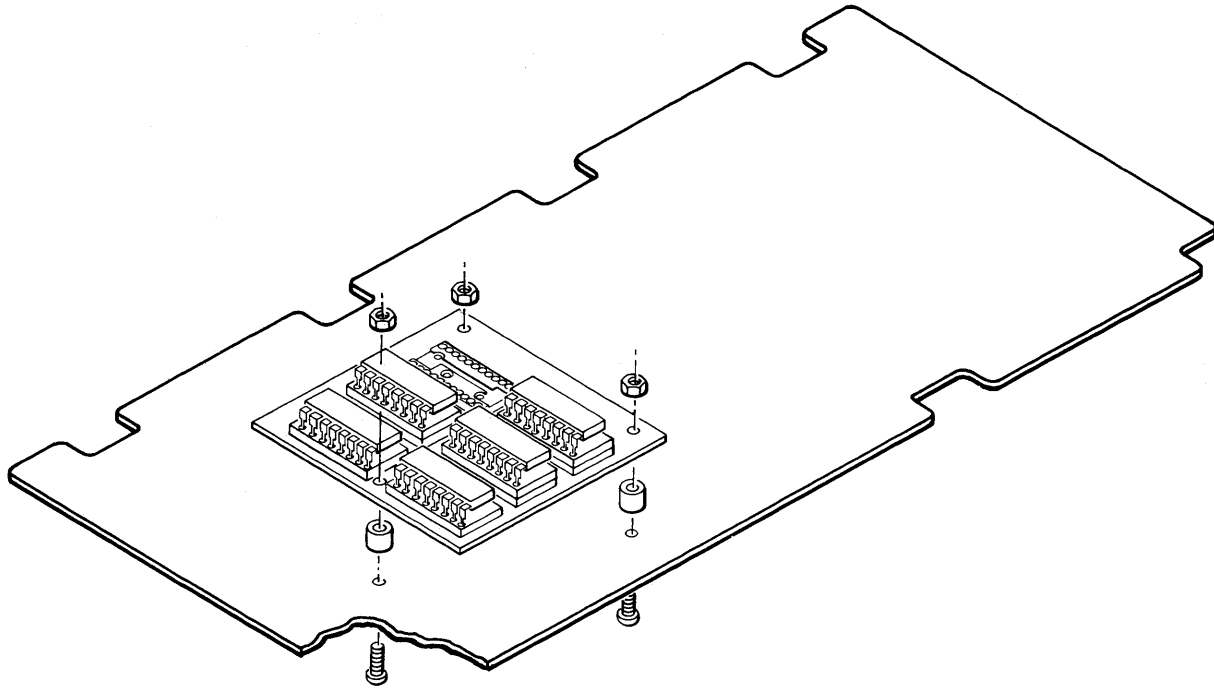

Figure 2-6. iSBC 341 Multimodule EPROM Orientation
9. Hold the iSBC 88/40 board on edge and install the three screws (reference figure 2-6), from the solder side.
11. Install the iSBC 341 Multimodule EPROM board on the iSBC 88/40 board in the location shown in figure 2-6.